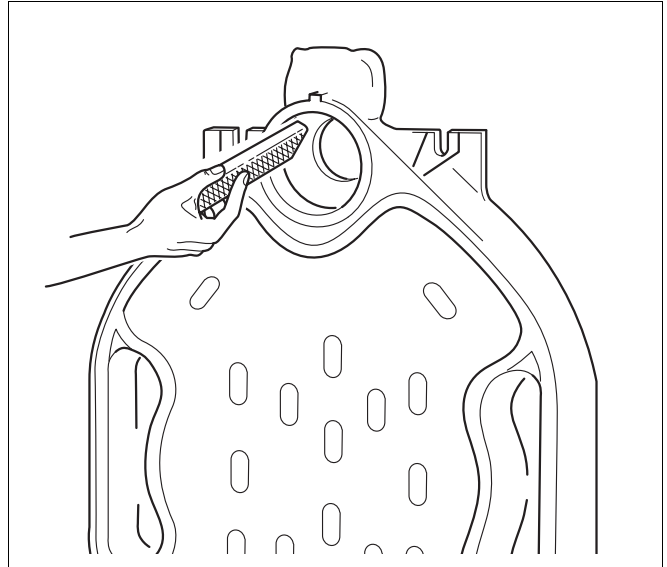

Fig. 7 Burr removal
- Remove possible burrs from the hub using a file (Fig. 7).
- Remove any burrs from the hub using a file (see Fig. 7).